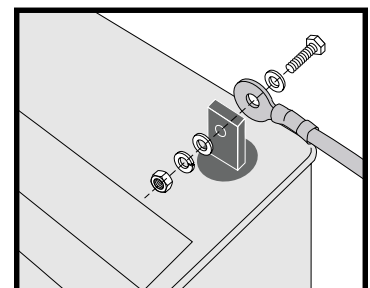

Figure 13B. Cable To Terminal Connection
**NOTE:** See figure 13B for correct hardware placement for battery terminal connections.